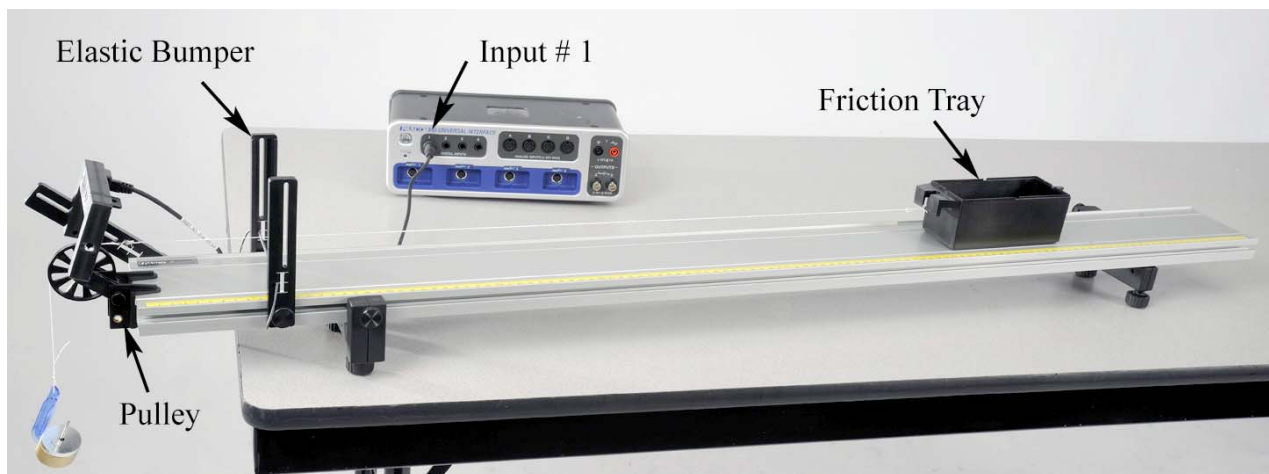

Figure 1: Measuring Sliding Friction
1. The Elastic Bumper should be placed about 15 cm from the end of the track as shown in Figure 1. The Clamp-on Pulley should have the pulley in the upper set of holes as shown.